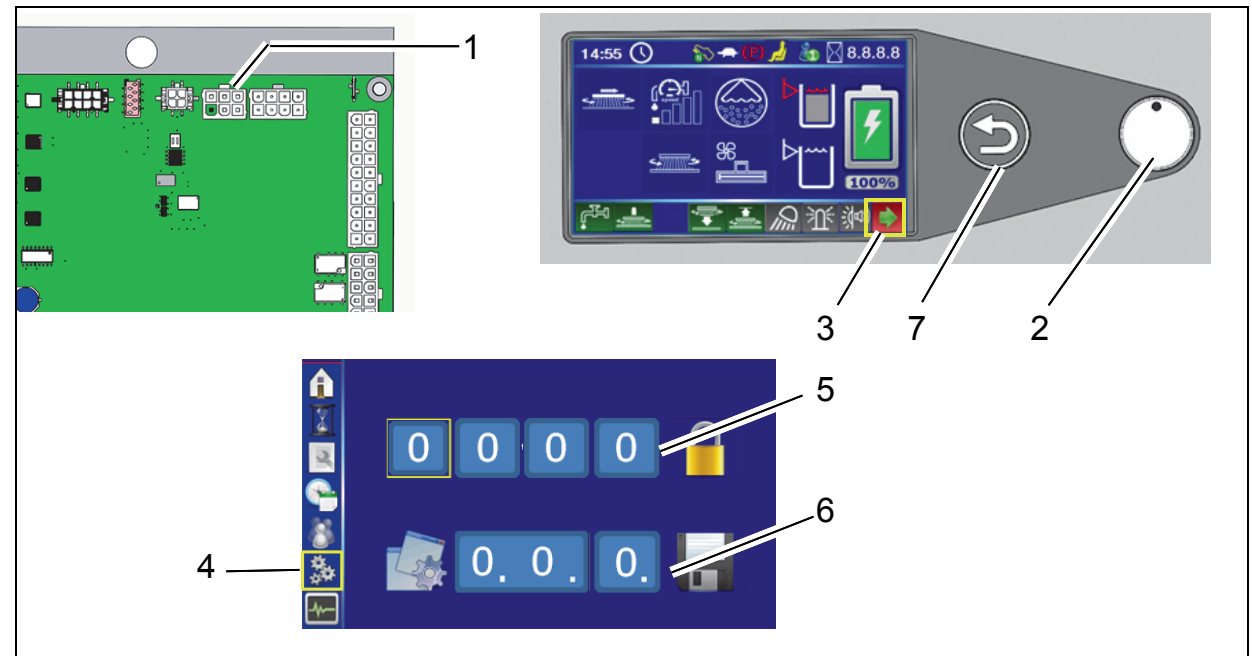

Fig. 3
Plug diagnosis plug into slot X20 of controller A1 (Fig. 3/1).
2. Select the arrow soft key (Fig. 3/3) on the control panel using the turn-push knob (DDS)(Fig. 3/2) and press to access the sub-menu.
3. Select the configuration menu in the sub-menu (Fig. 3/4).
4. Enter the 4-digit code in the configuration menu at the top (Fig. 3/5):
5. In the configuration menu at the bottom (Fig. 3/6), set the value of the option and save by pressing the DDS. After confirming the last digit, **OK?** appears. Press DDS again to save the value. Saved value is displayed in green. If the value is not to be saved, exit menu using the return key (Fig. 3/7).